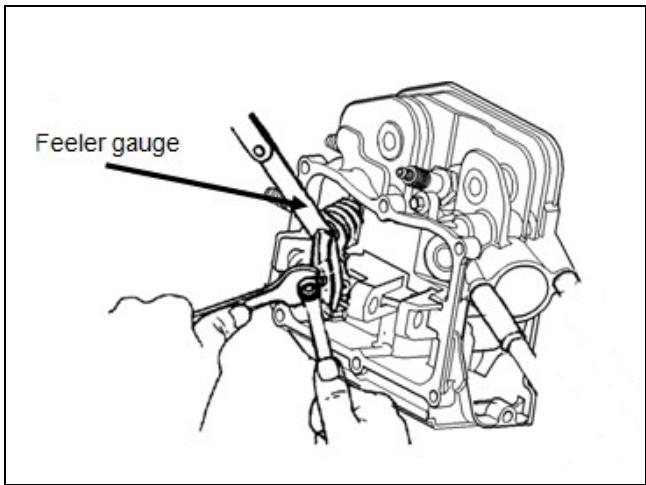

Figure 4-6. Valve Clearance Adjustment
- Hold the rocker arm pivot with a wrench and loosen the pivot lock nut (Figure 4-6).